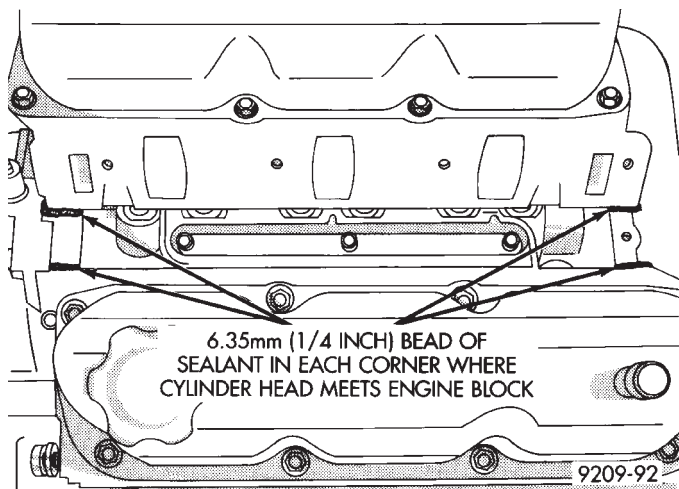

Fig. 13 Intake Manifold Gasket Sealing
(1) Clean all surfaces of cylinder block and cylinder heads.
(2) Place a drop (about 1/4 in. diameter) of Mopar Silicone Rubber Adhesive Sealant or equivalent, onto each of the **four** manifold to cylinder head gasket corners (Fig. 13).